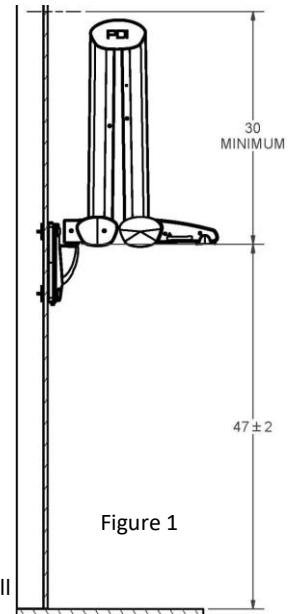

Figure 1
1. **LOCATION** – Make certain that the chosen Wall Mount Bracket location is near enough to the cable connection interface so that it can be connected. The cables can also enter from behind the wall bracket. Position the Wall Mount Bracket at a mounting height of **47±2 inches**. See Figure 1.